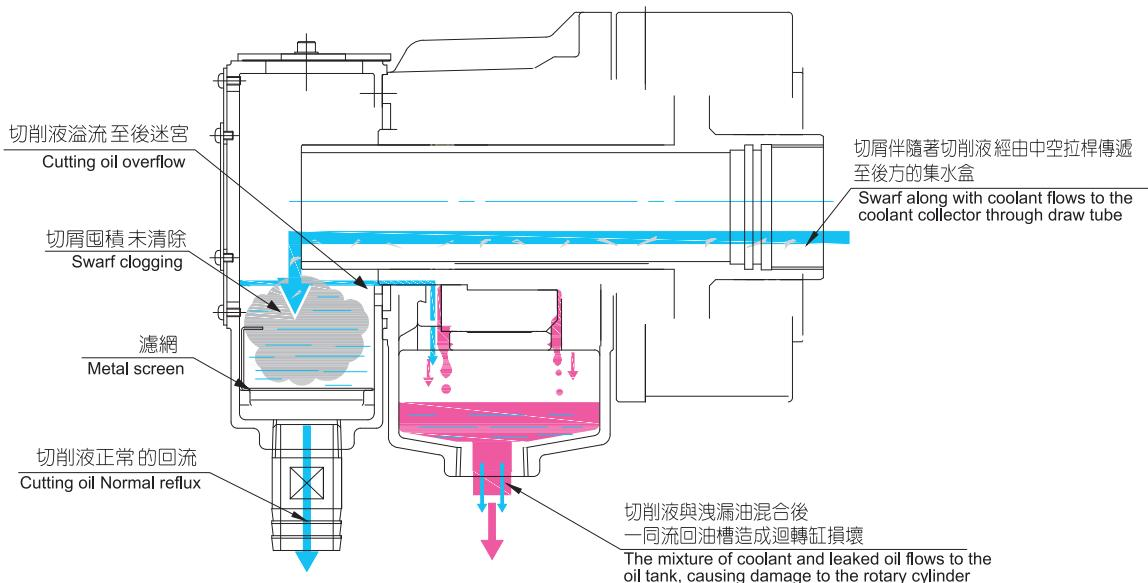

Fig.12
- 集水盒堆積過多之切屑，導致切削液及雜質溢流回罩殼油槽，造成油壓缸損壞，亦可能造成油壓泵有不正常之磨損，須保持切削液暢通，參考 Fig.12。
- Excessive swarf clogging in the coolant collector may cause the coolant and impurities to overflow to the oil tank, thus resulting in damage to the rotary cylinder. Moreover, it may also cause abnormal wear and tear to the oil hydraulic pump; therefore, it is necessary to keep the coolant flowing smoothly. (Refer to Fig.12)